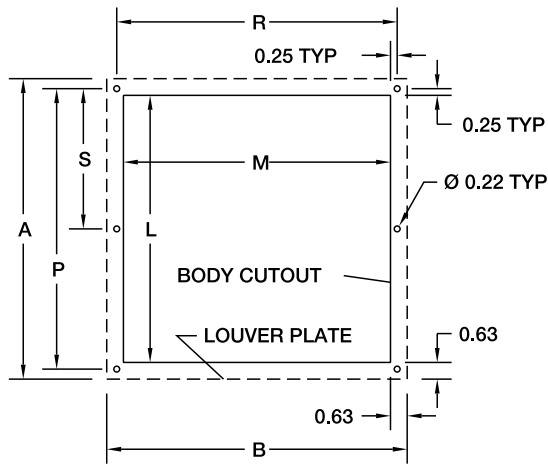

FIGURE 1
2. Locate and mark holes and cutout as shown in figure 1.